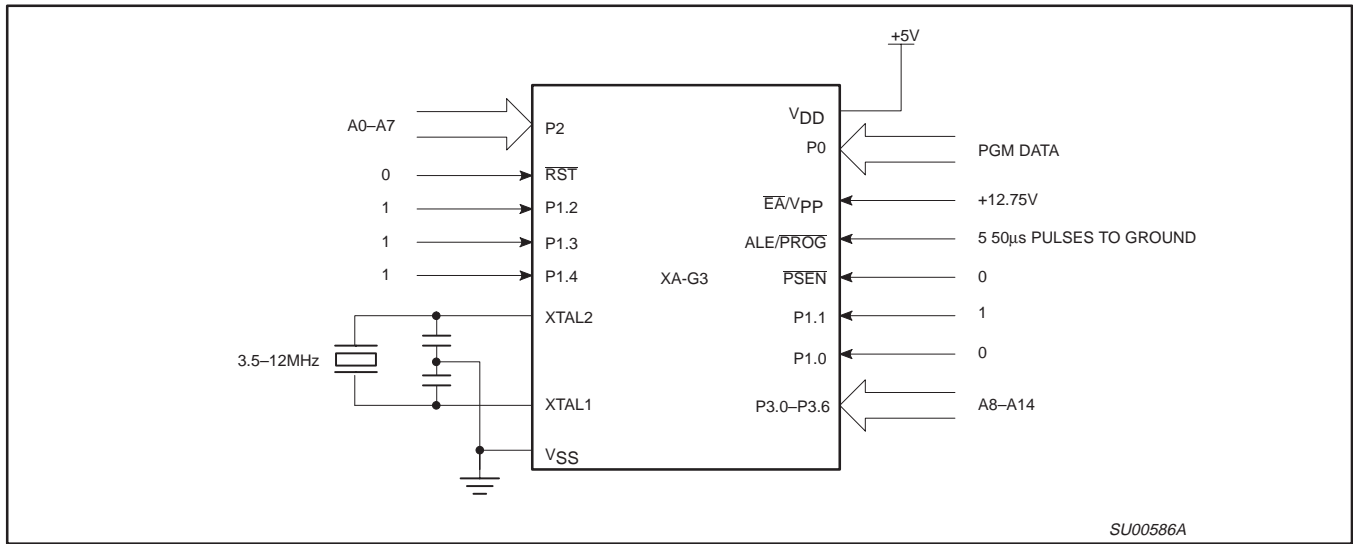
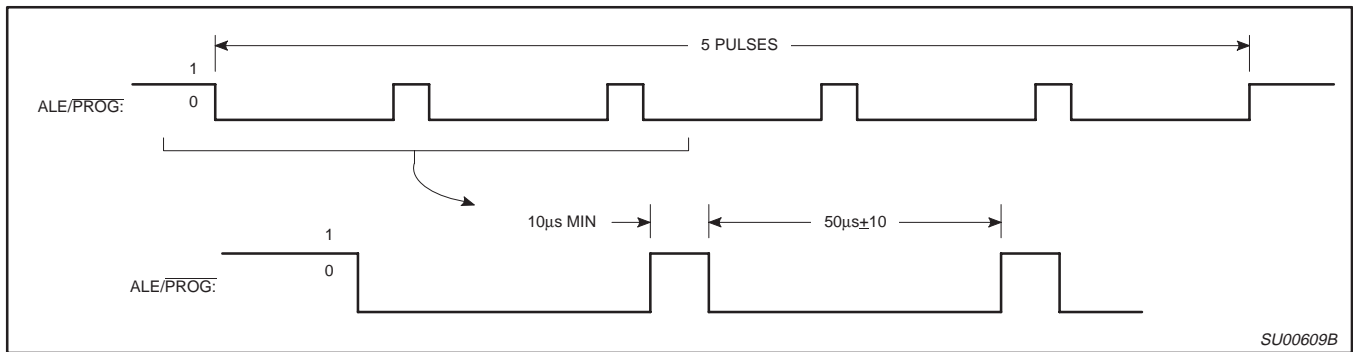
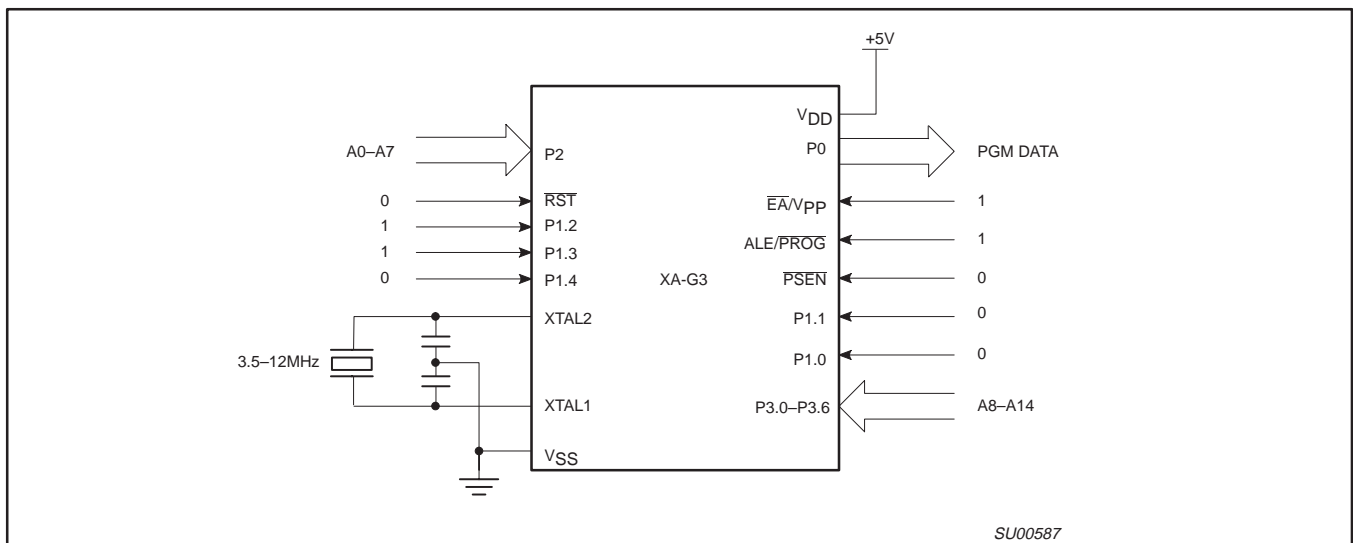

Figure 31. Programming Configuration for XA-G3
Figure 32. PROG Waveform
Figure 33. Program Verification for XA-G3
Table 6 shows the logic levels for reading the signature byte, and for programming the code memory and the security bits. The circuit configuration and waveforms for quick-pulse programming are shown in Figures 31. Figure 33 shows the circuit configuration for normal code memory verification.
The setup for microcontroller quick-pulse programming is shown in Figure 31. Note that the XA-G3 is running with a 3.5 to 12MHz oscillator. The reason the oscillator needs to be running is that the device is executing internal address and program data transfers.
The address of the EPROM location to be programmed is applied to ports 2 and 3, as shown in Figure 31. The code byte to be programmed into that location is applied to port 0. RST, \overline{PSEN} and pins of port 1 specified in Table 6 are held at the 'Program Code Data' levels indicated in Table 6. The ALE/PROG is pulsed low 5 times as shown in Figure 32.
If security bits 2 and 3 have not been programmed, the on-chip program memory can be read out for program verification. The address of the program memory locations to be read is applied to ports 2 and 3 as shown in Figure 33. The other pins are held at the 'Verify Code Data' levels indicated in Table 6. The contents of the address location will be emitted on port 0.
- * FOR PROGRAMMING CONDITIONS SEE FIGURE 32.
- FOR VERIFICATION CONDITIONS SEE FIGURE 33.